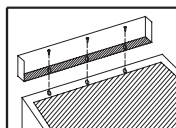

Fig. 4
- A decor strip is to be screwed into position on the fore and top edge of the washing machine if necessary, as shown in Fig. 4